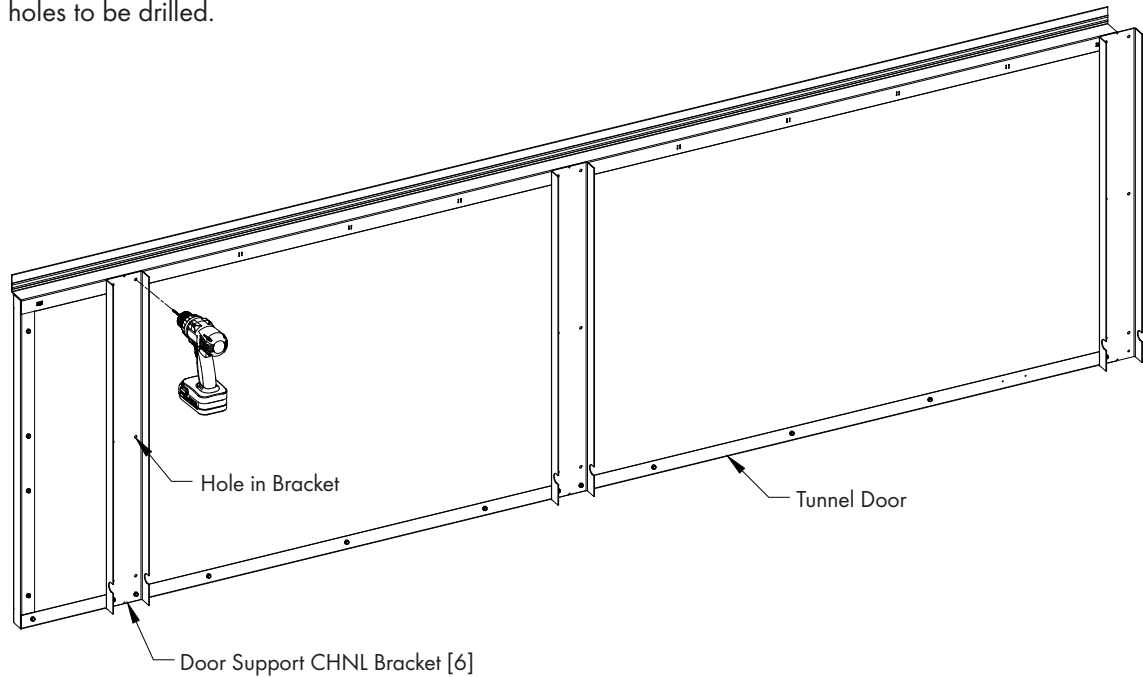

Figure 7
Drill a $\frac{3}{32}$ " hole through the Tunnel Door using the Holes in the Door Support CHNL Bracket [6] as a guide. See Figure 7. The left and center brackets have (6) holes to be drilled and the right bracket has (3) holes to be drilled.